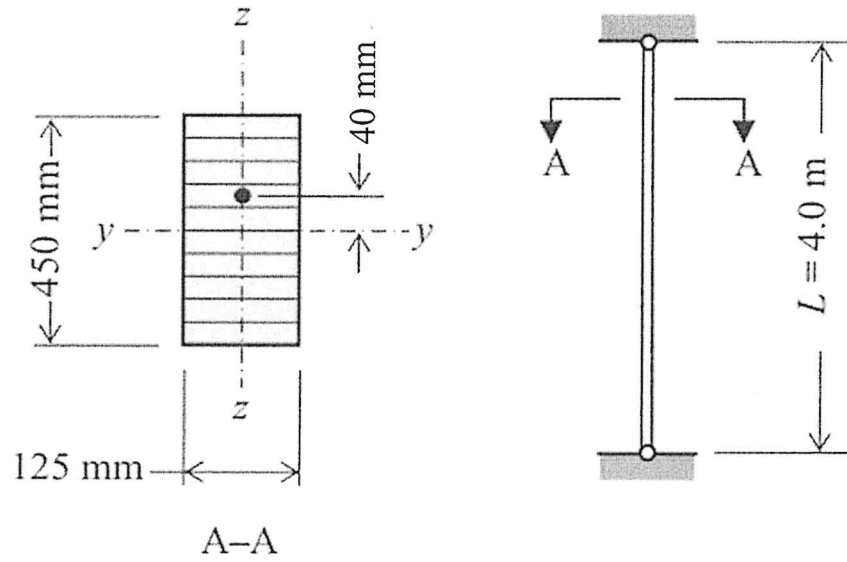

Figure Q4a
- (a) The glulam column shown in **Figure Q4a** is made from combined glulam grade GL 24c to BS EN 1194:1999, has a cross-section of 125 mm × 450 mm, and functions under service class 2 conditions. It supports a characteristic